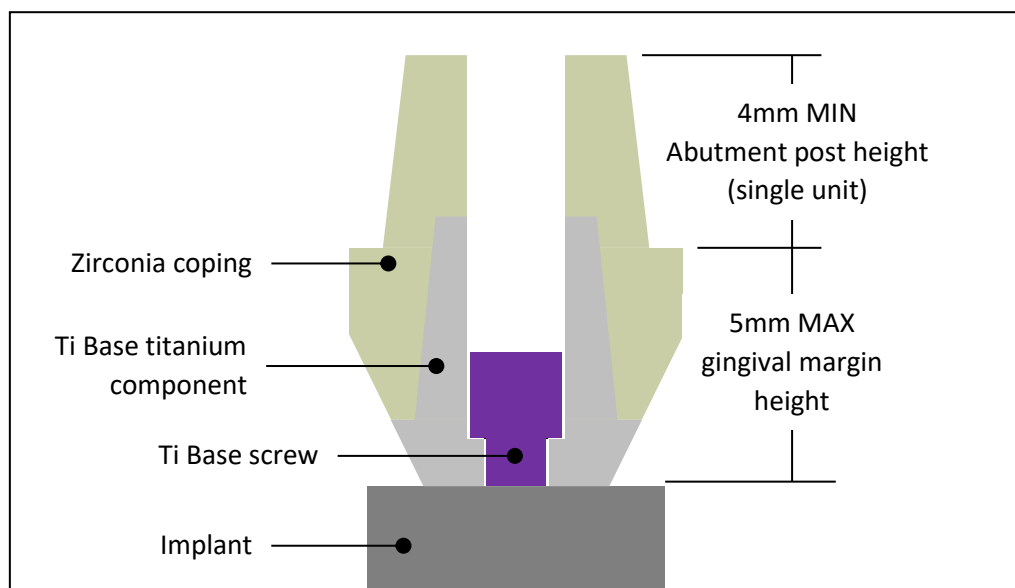

Figure 2 – Zirconia coping (superstructure) design limitations
- 5mm maximum margin height. (refer to **Figure 2 – Begrensninger i design av zirkoniakappe (overbygg)**)
- Ti Base abutments with a post height less than 4.0 mm are intended for multi-unit restorations only. (refer to **Figure 2 – Begrensninger i design av zirkoniakappe (overbygg)**)